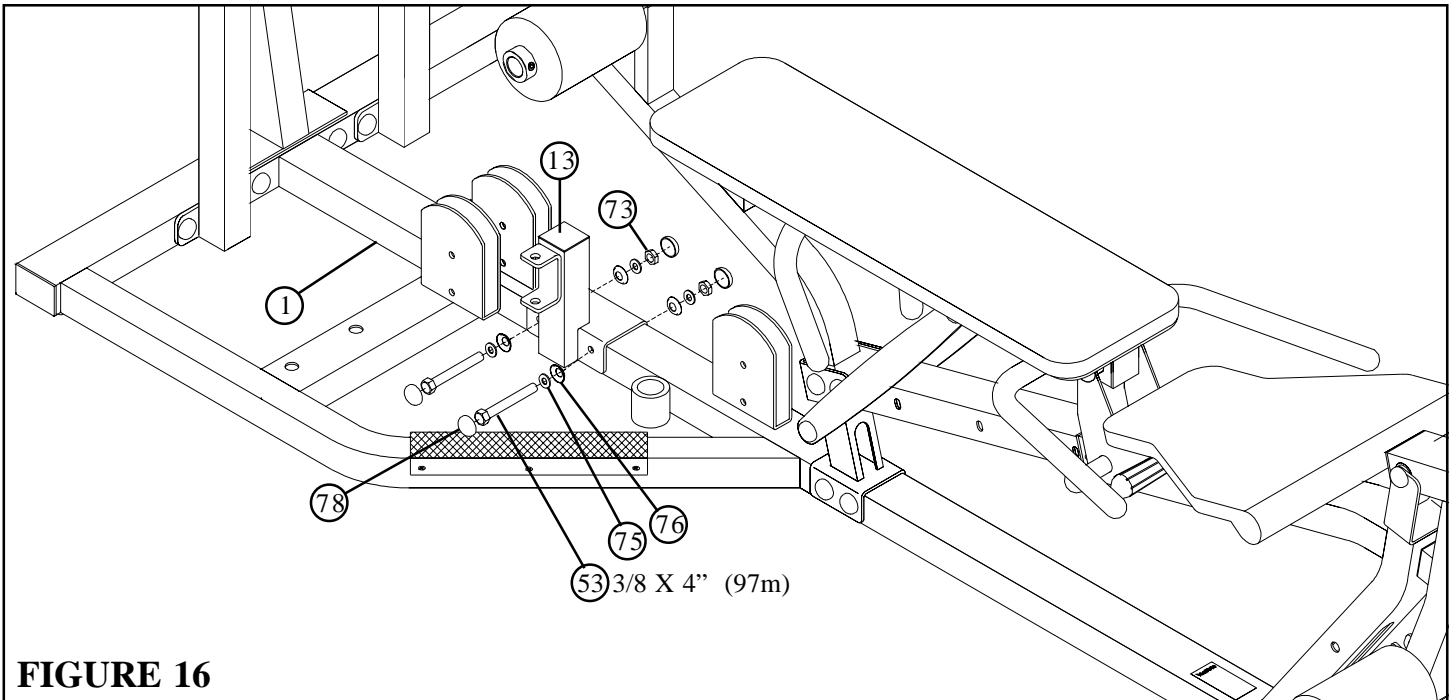

FIGURE 16
- **SECURELY** assemble the SWIVEL SUPPORT (13) to the BASE (1) using four RH CAPS (78), two 3/8 X 4" BOLTS (53), four 3/8" SAE WASHERS (75), four 3/8" RH WASHERS (76) and two 3/8" LOW HEIGHT LOCK NUTS (73) as shown in FIGURE 16.